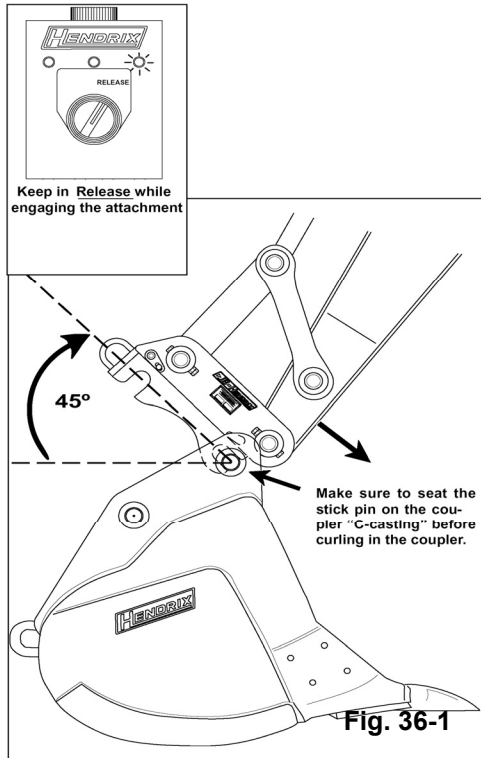

Fig. 36-1
- Operate boom, arm, and bucket cylinders to position the coupler at approx. a 45° angle on the attachment's stick pin. Fully seat the coupler's "C" casting on the stick pin as shown in Fig. 36-1.